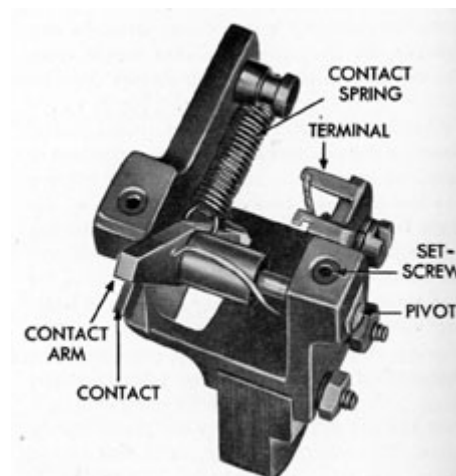

Figure 13-58. Contact arm assembly removed.
**13G70. Replacing the contact arm.** (See Figure 13-58.) The contact arm and contact are replaced as a unit. Remove the cover from the master transmitter indicator case. Unsolder the electrical lead from the contact arm